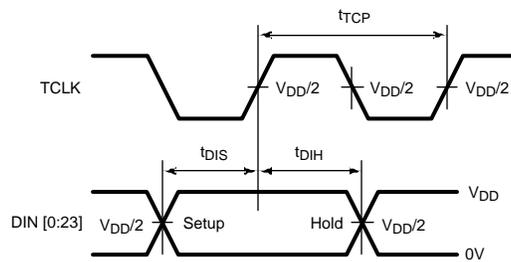

Figure 5. Serializer Setup/Hold Times
| t TCP  | Transmit Clock Period      | (Figure 5)     | 25   | T    | 333  | ns          |
(2) Figure 5 and Figure 15 show a rising edge data strobe (TCLK IN/RCLK OUT).
(3) tJIT (@BER of 10e-9) specifies the allowable jitter on TCLK. tJIT not included in TxOUT\_E\_O parameter.